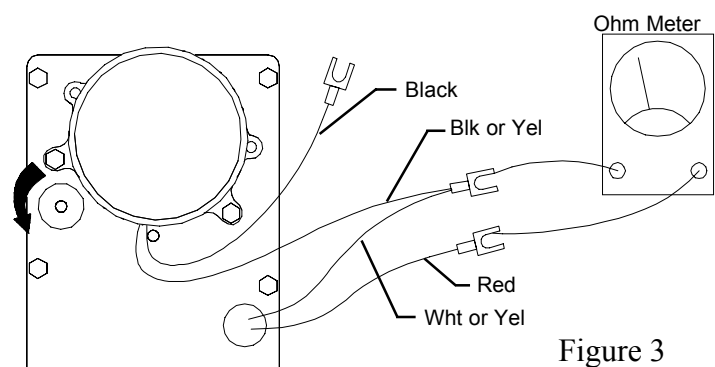

Figure 3
STEP 4: Clip the Ohm meter probes to clock leads as shown in figure 3. Wire colors may vary with clock model. With the switch closed, the meter should read approximately 2K Ohms (120VAC) or 80 Ohms (24VAC).